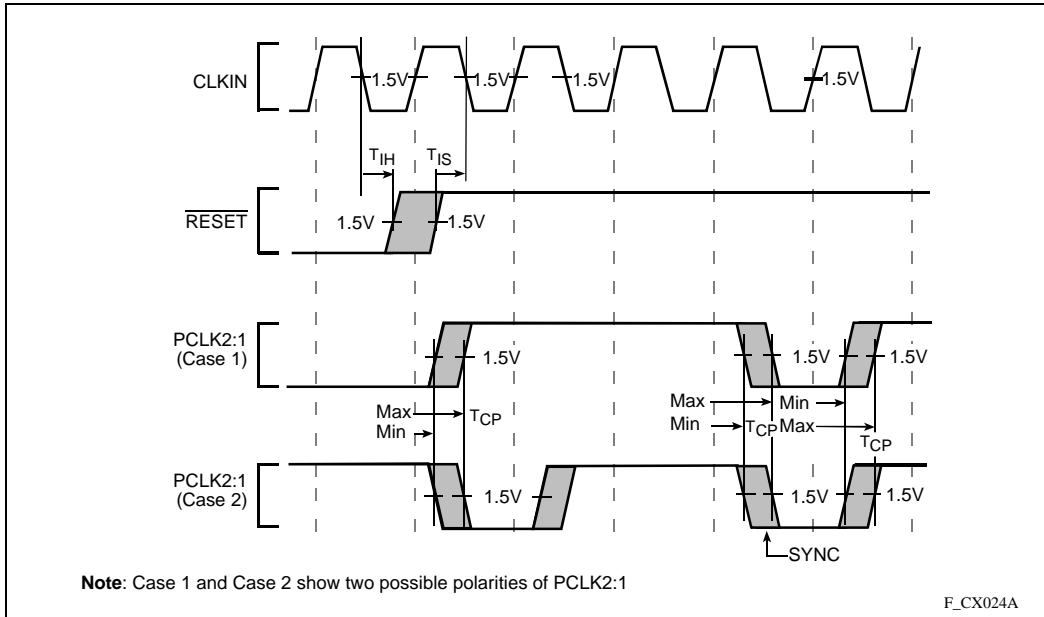

Figure 22. Clock Synchronization in the 2-x Clock Mode
- In 2-x clock mode,  $\overline{RESET}$  is an asynchronous input which has no required setup and hold time for proper operation. However, to guarantee the device exits reset synchronized to a particular clock edge, the  $\overline{RESET}$  pin must meet setup and hold times to the falling edge of the CLKIN. (See Figure 22.)